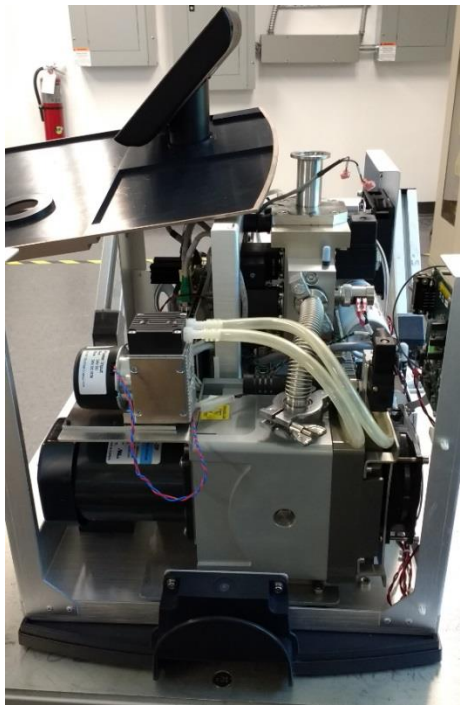

Figure 1: Covers
3. Using a slotted screw driver, remove all four covers and rotate the top about the screen, which does not need to be removed (Figure 1: Covers).